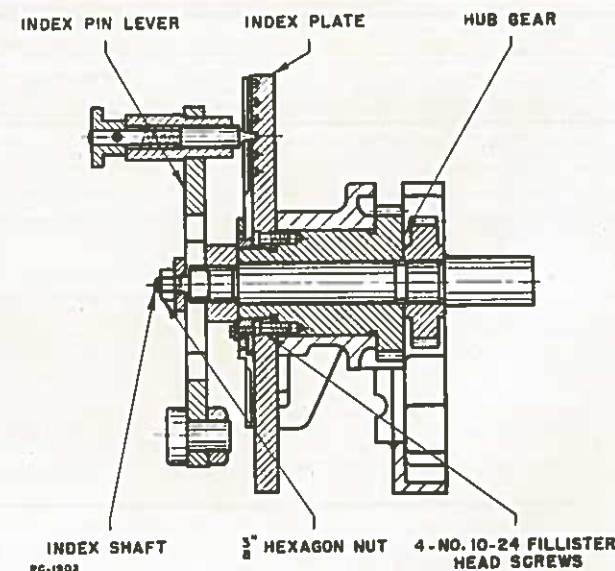

FIGURE 8B
1. Unscrew $\frac{3}{8}$ " Hexagon Nut and washer from end of Index Shaft (Figure 8B). If Dividing Head is Wide Range remove $\frac{1}{2}$ " hexagon nut.
1. Unscrew $\frac{3}{8}$ " Hexagon Nut and washer from end of Index Shaft and remove Index Pin Lever (Figure 8B).
17. The $\frac{7}{8}$ " diameter on Index Shaft should project .005" to .008" beyond face of Hub Gear (Figure 8B). If more than .008" projects, face shoulder of index Shaft to acquire correct dimension. If less than .005" projects, face hub end of Hub Gear. This dimension is necessary to allow proper clearance for sectors on index plate.
21. Fasten wide range index plate to, and mount wide range sector on, hub gear (Figure 8B).